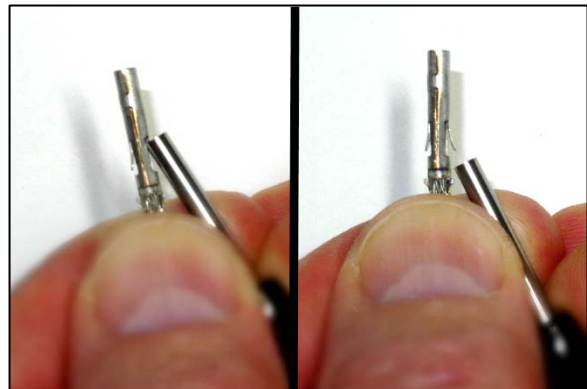

Figure 24
39. If necessary, use a tool (might be the extractor) to open the lock tangs (Figure 24).